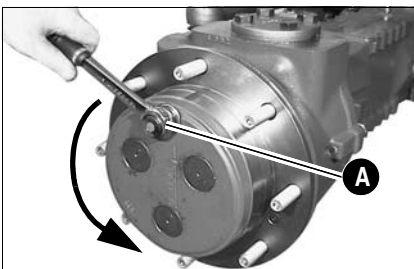

Fig. 33: Oil drain plug on planetary drive
- Place plug A in the position shown in fig. 33 (plug must be at the top)